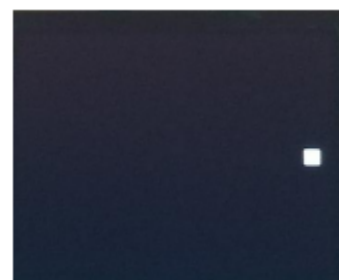

fig 1-1
1. When power is applied to the towel warmer, a small square will appear on the LCD screen ( fig 1-1)